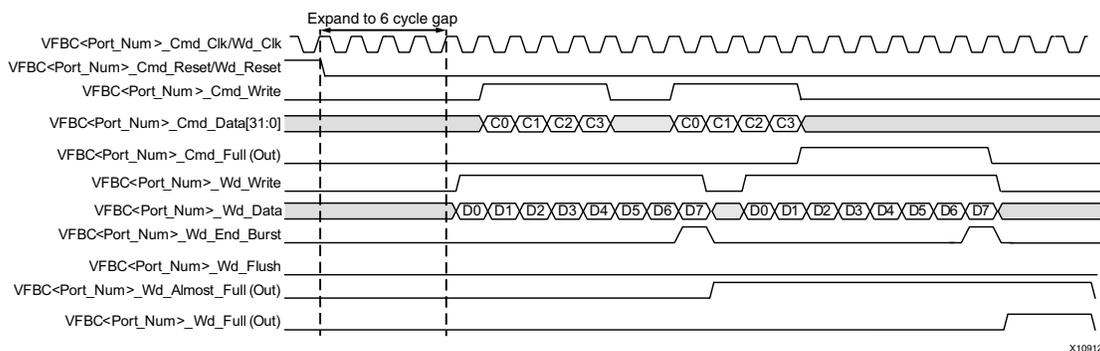

Figure 40: VFBC Write Timing
- The `VFBC<Port_Num>_Wd_End_Burst` signal is used only when the transfer is not a multiple of the burst size. If the transfer ends on a boundary that is not 32-word aligned, this signal must be asserted High during the last word transferred. Figure 40 shows a typical VFBC Write operation and provides an example of VFBC Write Timing. The actions of the Write data interface are enumerated below Figure 40.
- As shown in Figure 40, the command words C0, C1, C2, and C3 are being written during a data Write. The command words can be written before, during, or after the data is written.
- Figure 40 also shows one cycle between `VFBC<Port_Num>_Wd_End_Burst` and the next burst, although zero to any number of cycles can exist between burst end and the next burst. The number of cycles between bursts is controlled by the `VFBC<Port_Num>_Wd_Write` signal. This is the FIFO data push signal asserted by the VFBC client.